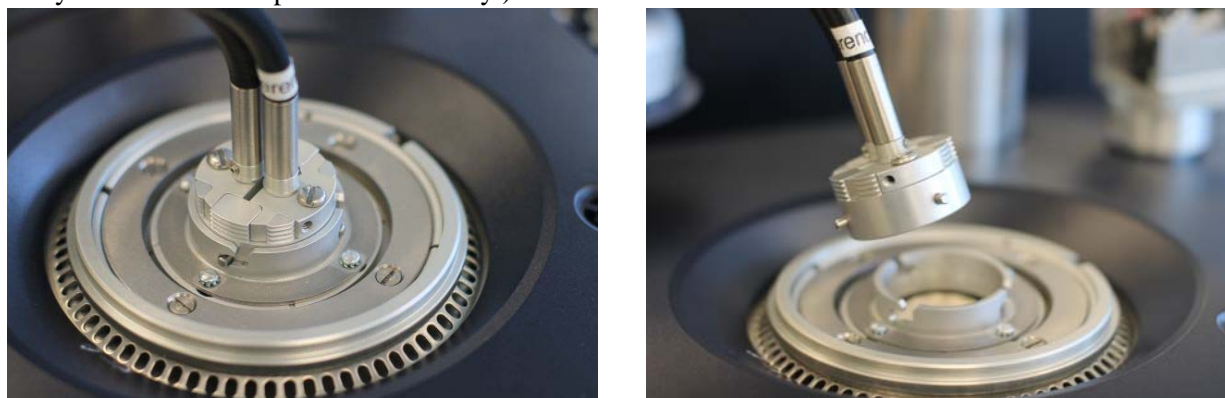

Figure 13 Insert light guide arms (left); adapter and light guide arms removed as a single assembly (right).
- 5 Insert the light guide arms into the reference (R) and sample (S) holes in the light guide adapter until they bottom out (Figure 13 left). Tighten the setscrews to hold them in position. The adapter and light guide arms can now be removed from the cell as a single assembly, if desired, by twisting the adapter until the locking pins disengage from the slots in the mounting ring (Figure 13 right). Note that this single assembly can now be replaced in the exact position needed, each time it is removed for sample loading, due to the fixed position of the slots. Check that the filters are still lying flat in the holders when you remove and replace the assembly.)